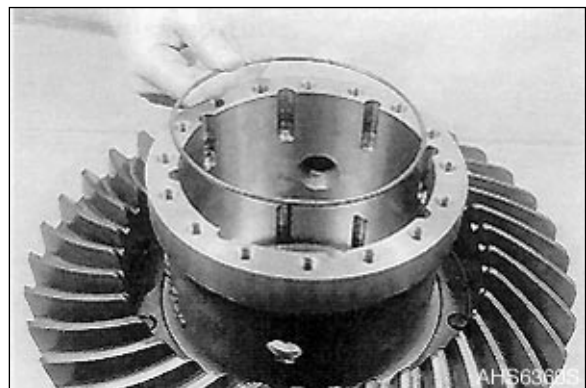

Figure 263
5. Lay snap ring into the ring groove, see Figure 263.